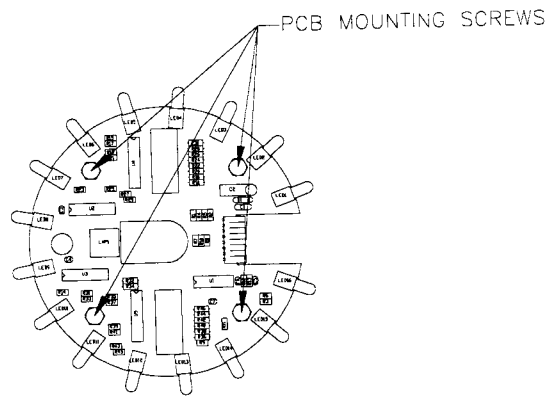

FIGURE 7
5. To remove the L.E.D. Chase Light PCB (p/n A-20670) and the Saucer PCB Insulator (p/n 01-14210), remove the four PCB mounting screws (p/n 4008-01168-06). (See Fig.7)